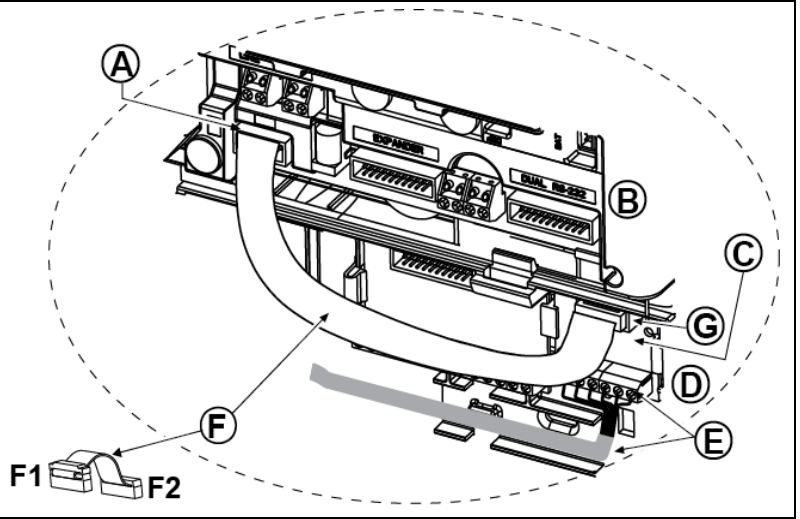

Figure 4.8 – PGM-5 Module Mounting
Mount the PGM-5 module as shown in Figure 4.8.
Caution! When mounting the PGM-5 module it is strongly recommended to route the wiring cable (E) as shown in Figure 4.8) to prevent interference which may occur if routed too close to the control panel antennas.